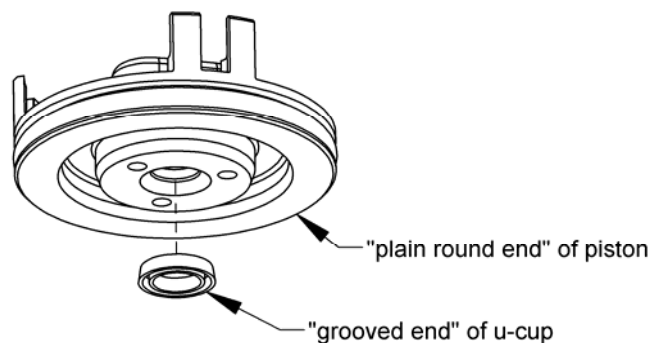

Figure 5.9—U-cup Orientation
4. Assemble the new u-cup in the groove in the center bore of the piston making certain that the grooved end faces the plain round end of the piston (see Figure 5.9).